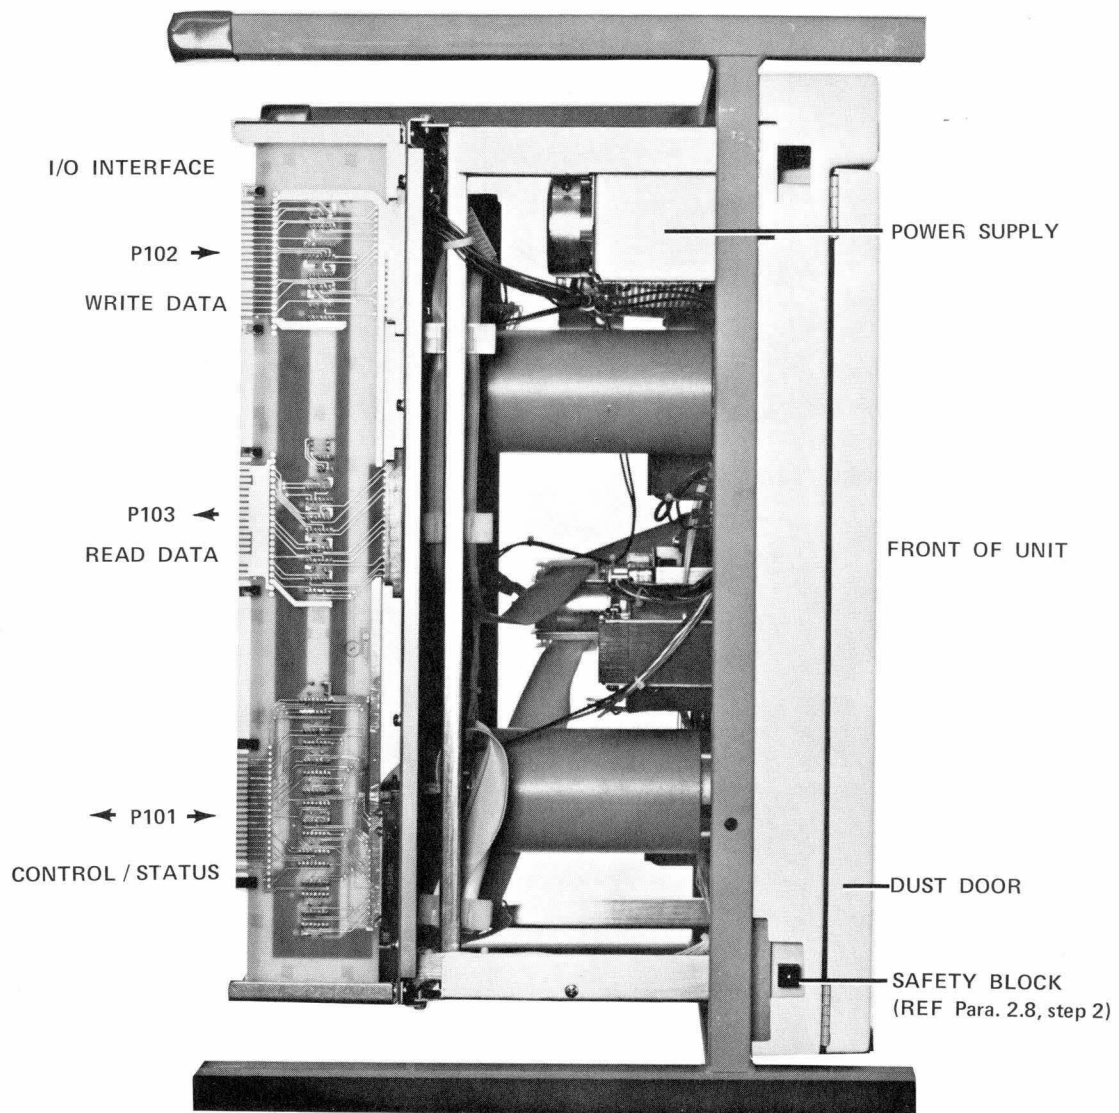

FIGURE 2-9. TRANSPORT MOUNTING SAFETY BLOCK AND INTERFACE DETAILS
2. Remove Safety Block from transport chassis. (See Figure 2-9.)
Three, 36-lead twisted pair cables are used for interconnection between the tape transport and external formatter. These cables are installed on the card-edge connectors on the I/O interface board, (See Figure 2-9.) and their pin assignments are specified in Table 2.3.